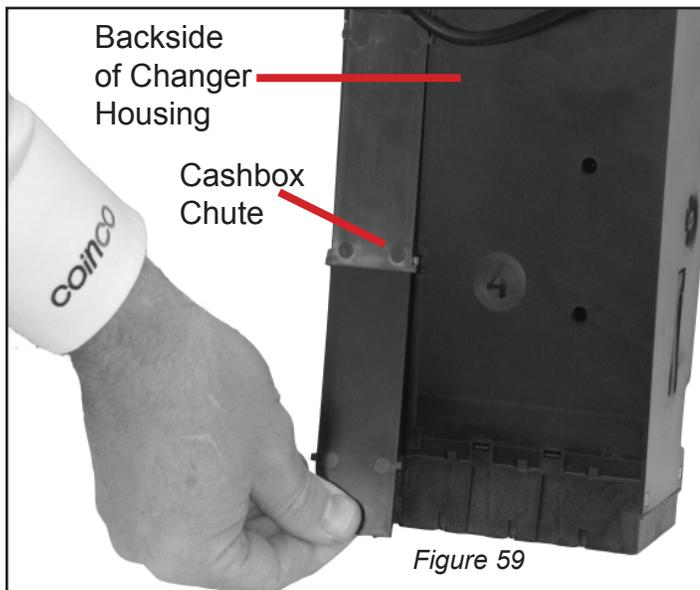

Figure 59
11. Pull the bottom of the cashbox chute out slightly, away from the backside of the changer housing and slide the chute down to release. Twist the chute clockwise to disengage the upper pin. Clean the chute and housing coin path. See Figure 59.